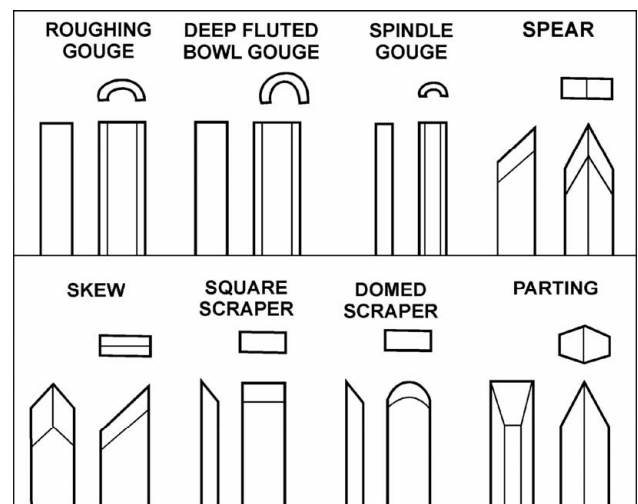

Fig. 12
**Roughing Gouge** — used for rapidly cutting raw wood into round stock, see Figure 12.
**Deep Fluted Bowl Gouge** — used for turning bowls and plates, see Figure 12.
**Spindle Gouge** — used for turning beads, coves and other details, see Figure 12.
**Spear** — fine scraping and delicate operations, such as the forming of beads, parallel grooves and shallow vees, etc, see Figure 12.
**Skew** — used to make vees, beads, etc., see Figure 12.
**Square Scraper** — used for diameter scraping and featureless scraping, etc, see Figure 12.
**Large Domed Scraper** — used to reduce ridges on the interior of bowls, round edges of bowls, etc, see Figure 12.
**Parting Tool** — used to cut directly into the material, or to make a cut off. Also used for scraping and to set diameters, see Figure 12.